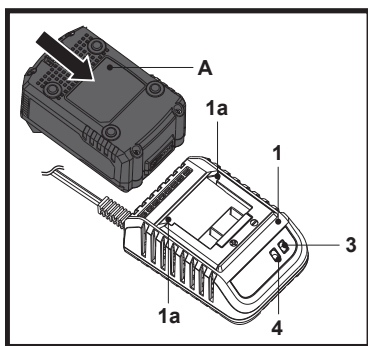
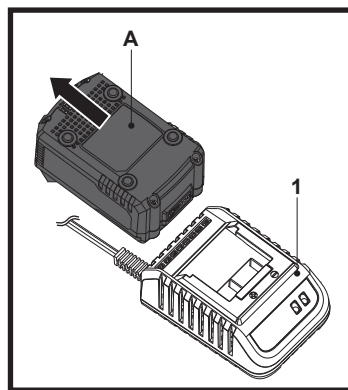

Fig. 1
Fig. 2
1. Align and slide the battery pack (A) onto the sliding slots (1a) of the charger (1) all the way to the stop. Ensure that the battery pack (A) is fully engaged with the charger (1) (Fig. 1).
2. Connect the plug of charger (1) to the power supply.
3. The red charging indicator (4) turns on and the charging is ongoing.
4. The red charging indicator (4) goes off and the green power indicator (3) turns on after charging is done (this normally takes 1-2 hour, see below “Power / charging indicators” section for charging status), disconnect the charger (1) from power supply.
5. Remove the battery pack (A) from the charger (1) (Fig. 2).